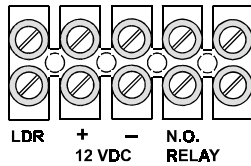

Figure 6. Terminal Block
- Feed wiring through the selected entryway, pass upward through the opening and connect to the terminal block (see Figure 6).